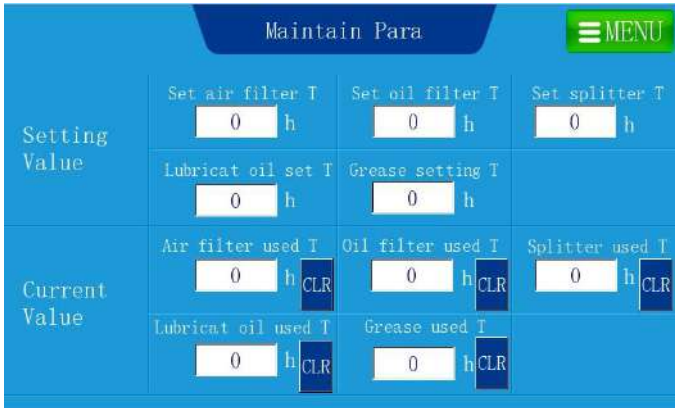

Figure 4-12 Maintenance parameter interface
7. Choose **Maintain Para** in the touch screen menu. The page shown in Figure 4-12 is displayed.